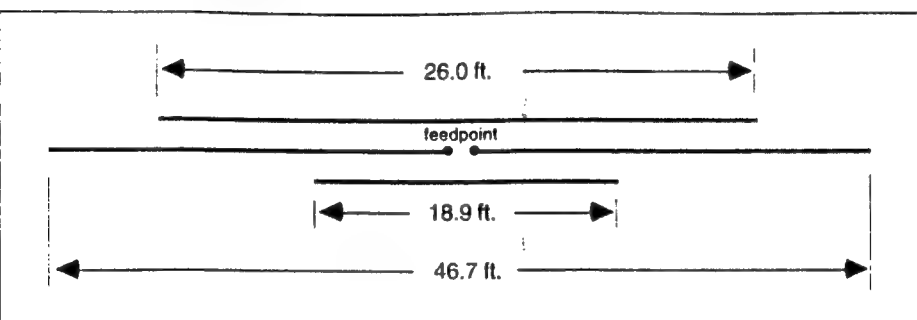
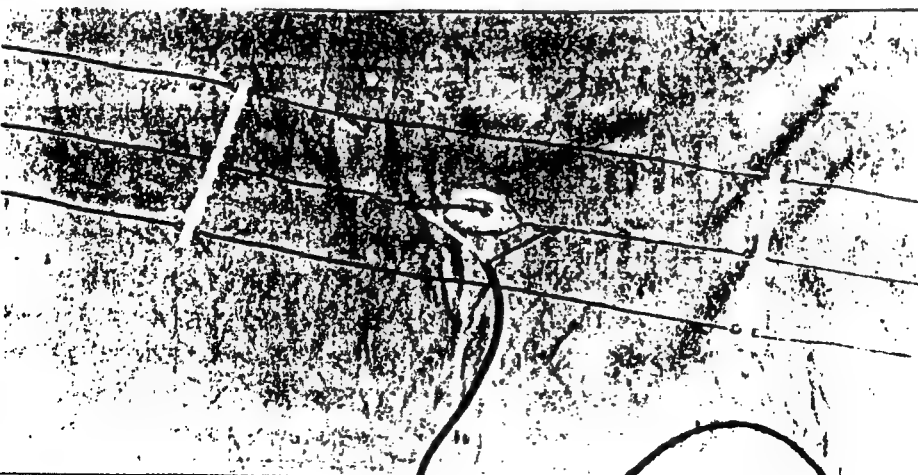
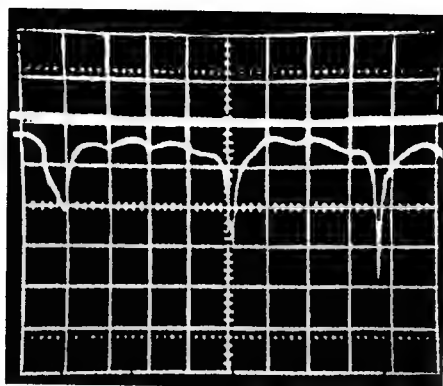

Fig. 6. As built dimensions of a 3 frequency C-R antenna for 10.1, 18.1, and 24.9 MHz, using #12AWG conductors.
Fig. 7. Photo of the feedpoint region of the 3 frequency C-R antenna for 10.1, 18.1 and 24.9 MHz.
Fig. 8. Return loss sweep of the example 3 frequency antenna. The scales are 2 MHz/div. horizontal (18MHz center) and 10 dB/div. vertical.
Figure 6 shows the dimensions of a three-frequency dipole constructed from #12 AWG wire. The driven dipole is resonant at 10.1 MHz, with additional resonators for 18.1 and 24.9 MHz. Using equation (2), and choosing 50 ohms as the design impedance for F2 and F3, the required spacing was determined to be approximately 1.75 inches (4.5 cm) for each resonator. After modeling the design in ELNEC, the spacing was increased to 2.0 inches (5 cm), primarily to compensate for installation above real ground at a design height of 45 feet (13.7 m). Figure 7 is a detail photo of the feedpoint region. Figure 8 is a return loss sweep from 8 to 28 MHz. The ripple in the display is caused by small reflections in the long test cables. Return loss is greater than 20 dB at the three design frequencies, exceeding 30 dB at the highest two frequencies (those added by coupled-resonators). 30 dB corresponds to a VSWR of 1.06:1.